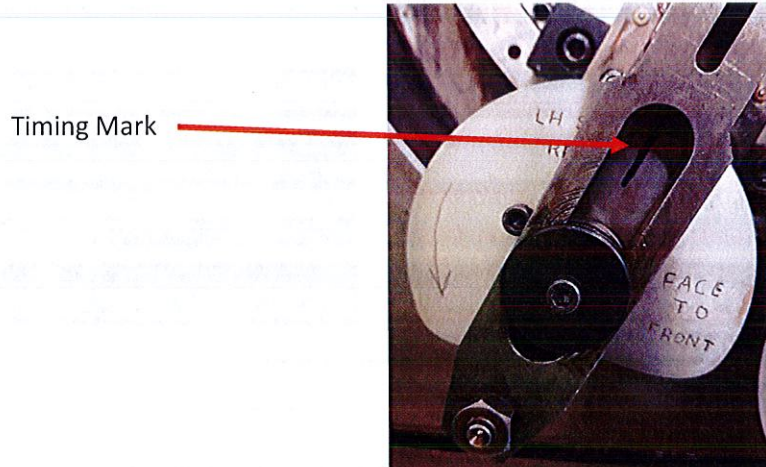

Figure 3: Image of a cam with the timing point position
- Place the slide units on making sure to have the cam timing position on the inside as shown in figure 3.